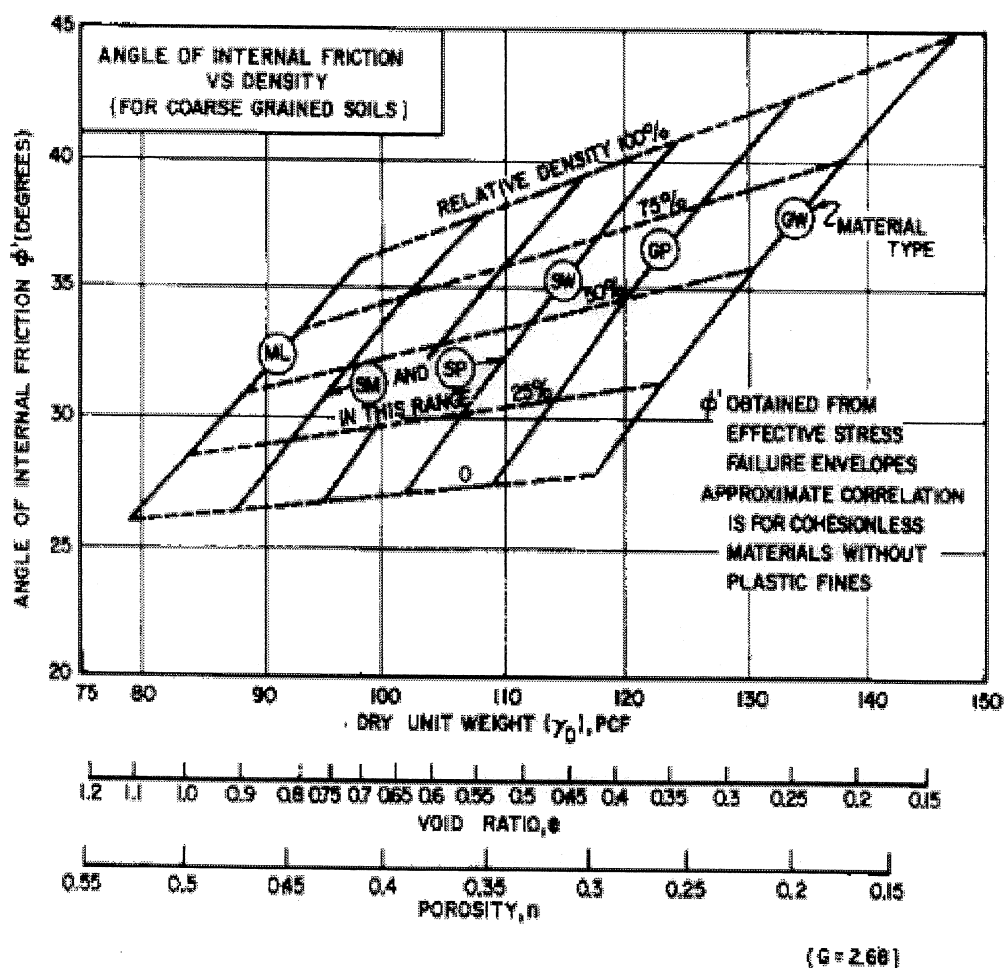

Fig. 1: Correlations of strength characteristics of granular soils (Figure 7, US Navy DM7.01)
1. Fig. 1 is an extract from the Design Manual DM7.01 of the US Navy.
- List the dependent and independent variables shown in Fig. 1 (4 points)
- Explain how you would use Fig. 1 when computing the force due to active earth pressure on a gravity retaining wall. (4 points)